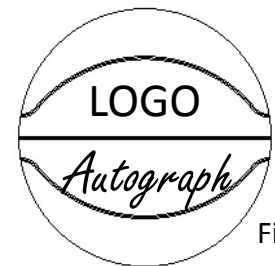

Fig. 1
Hanging a BASKETBALL (full size regulation- 29.5") – – see Fig. 1.
*** This mounting feature is to be used when you want to display a basketball on the wall or **ceiling** – NOTE: There are only 4 different positions a basketball may be mounted with the INVISI-ball Wall Mount in order to **completely** mask the mounting band since there are only 2 seams that run around the circumference of the basketball – see Fig. 1 as an example***